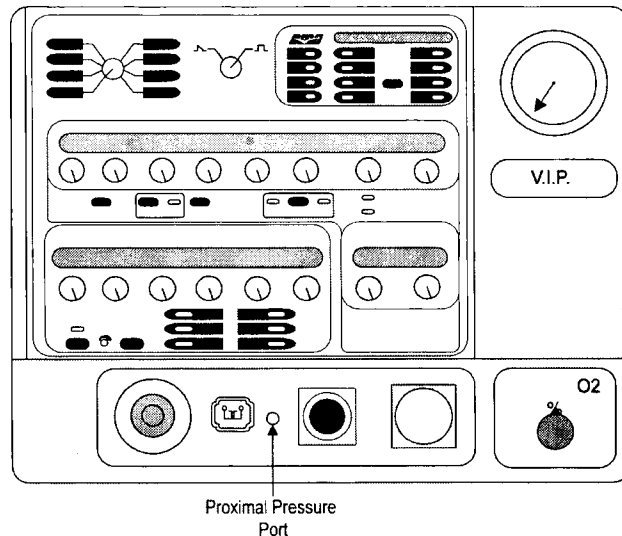

Figure 5.4
- 9.2 Block the proximal port on the front of the ventilator (see Figure 5.4). Adjust the Purge Valve, (PN 10180) valve stem until the master manometer reads  $60 \pm 3.0$  cmH2O. Record the result on the OVCS. Apply torque seal between stem and body of the purge valve.